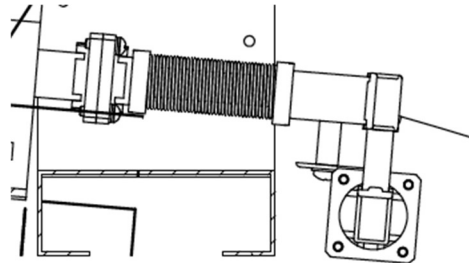

Figure 4 Properly Installed Waveguide
- Bending or modifying the TX Waveguide Filter Assembly **shall not** be performed to accommodate installations. Modification of the TX Waveguide Filter Assembly can cause damage and/or impact system performance. See Figure 4 for an example of a properly installed Waveguide.